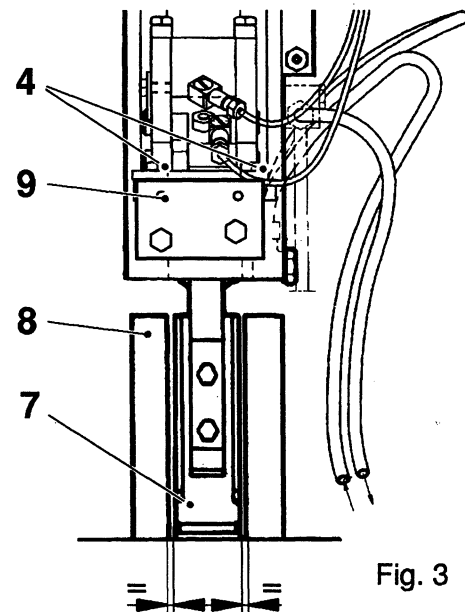

Fig. 3
- h) Loosen the screws (4). Set the side lugs (7) positioned symmetrically ± 0.2 mm between the stations (8), see fig. 3, by shifting the pressure unit lengthwise.